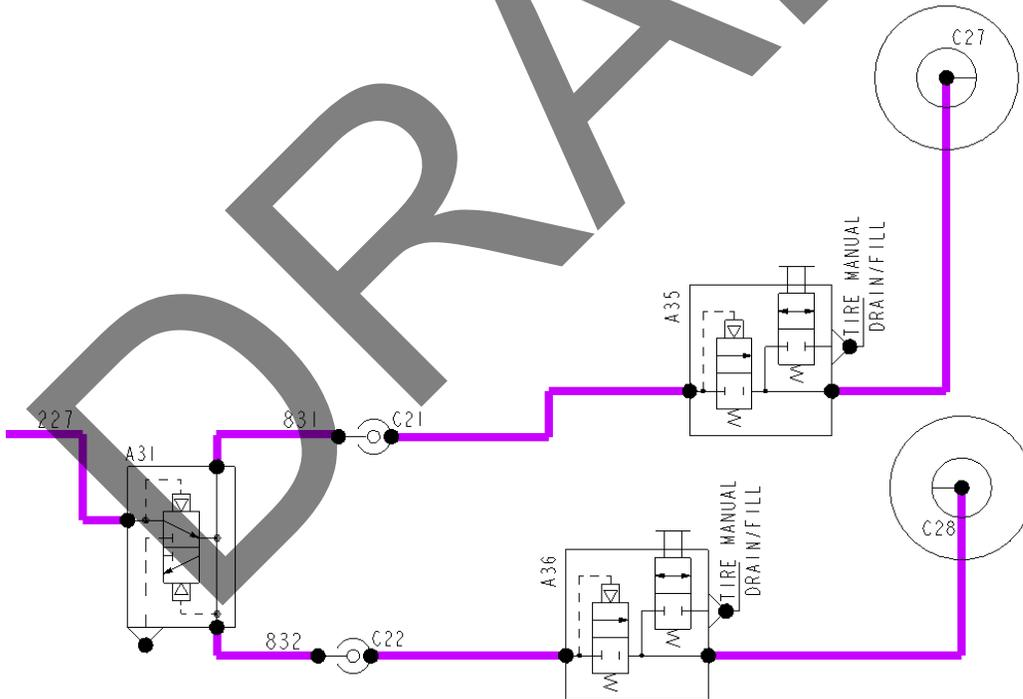

FIGURE 29: SAMPLE PIPING DIAGRAM
- Piping diagram; see *Figure 29*.